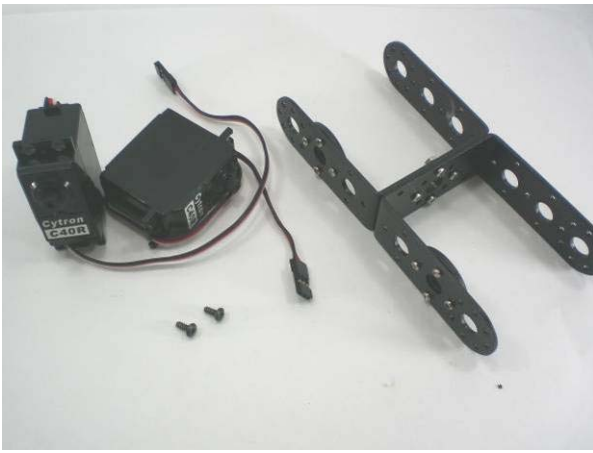

Figure 35
5. Prepare the components as shown in figure 35.